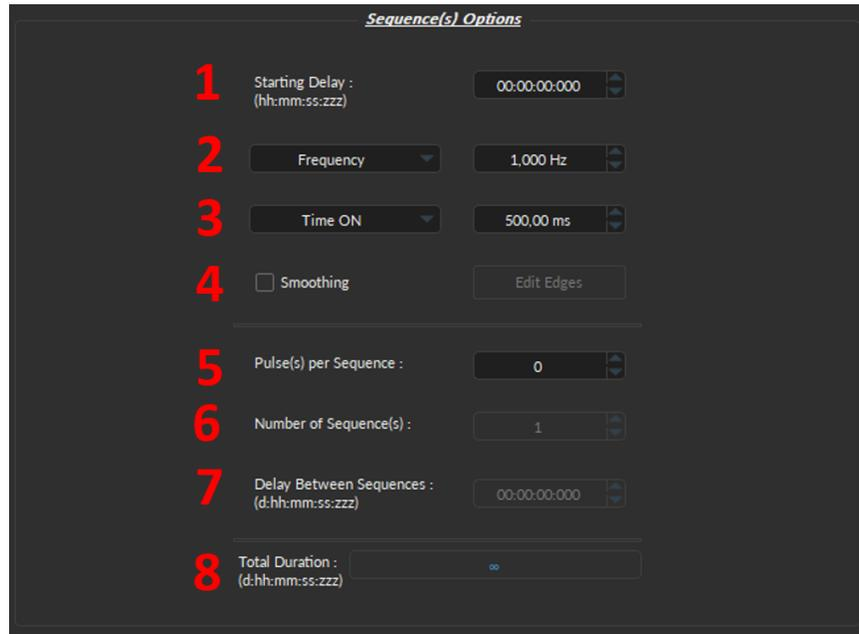

Figure 4.16: Light Source Channel Configuration Window, Square Sequence Options
1. The **Starting Delay** (Fig. 4.16) sets the delay (in hh:mm:ss:zzz format) before the first pulse.
2. The **Frequency/Period** (Fig. 4.16) sets the frequency (in Hz) or period (in ms) for the pulse sequence. For example, a signal at 10 Hz (frequency) will output one pulse every 100 ms (period), whereas a pulse sequence at 0.5 Hz (frequency) will output one pulse every 2000 ms (period).
3. The **Time ON/Duty Cycle** (Fig. 4.16) sets the time (in ms) or the duty cycle (in %) for each pulse. The **Time ON** must be lower than  $(1/\text{frequency})+0.005$  ms, while the **Duty cycle** must be below 100 %. These squares will appear red should an impossible **Frequency/time ON** be selected. Should the **Smoothing** option be selected, this feature becomes inaccessible.
5. The **Pulses per sequence** (Fig. 4.16) sets the number of pulses per sequence. If it is set to 0, the pulse will be repeated indefinitely.
6. The **Number of sequences** (Fig. 4.16) sets the number of times that the sequence will be repeated. If it is set to 0, the sequence will be repeated indefinitely.
7. The **Delay between sequences** (Fig. 4.16) sets the delay (in hh:mm:ss:zzz format) between each sequence if the **Number of Sequences** is greater than 1.
8. The **Total Duration** (Fig. 4.16) displays the total time of the experiment. The different values can be *Inf* for infinite, a valid time value or *Err* if the **Time ON** value is greater than 1/frequency.